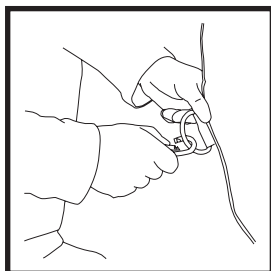

Fig. 3
5. Fasten the carabiner attached to the end of the rope to the wheel sewn at the highest point of the pillar (Fig. 3). Repeat for each rope.